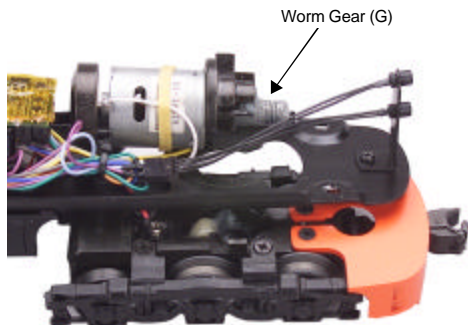

Figure 3a. Grease the Worm Gear
3. Once the motor mount screw has been removed, pull the motor away from the truck block and lightly coat the motor worm gear and bronze drive gear (in the truck block) with grease (see figure 3a).